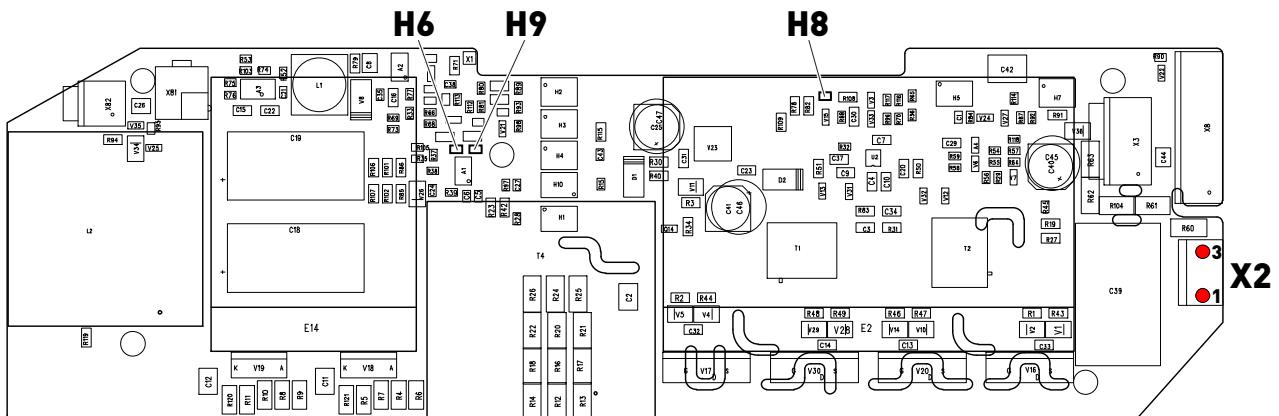

Figure 9.1. Fan power supply top side layout
- If the fuses are OK, measure the resistance from fan power supply board connector X2 (Figure 9.1), between pin 1 (DC-) and pin 3 (DC+). If the pins are in short circuit, the board is broken and needs to be replaced.